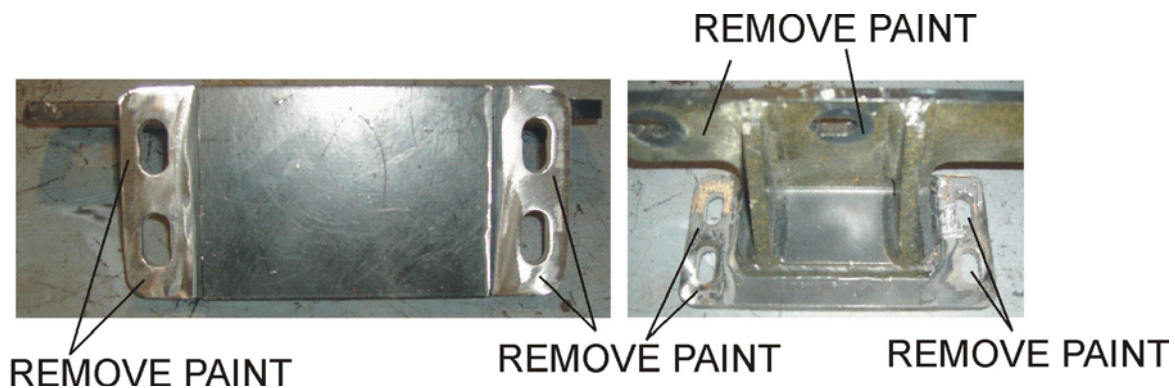

Figure 14. Engine Mounting Bracket
18. Remove paint around the bolt-hole openings on the engine mounting bracket. Do this to both sides of the engine mounting bracket (Figure 14).